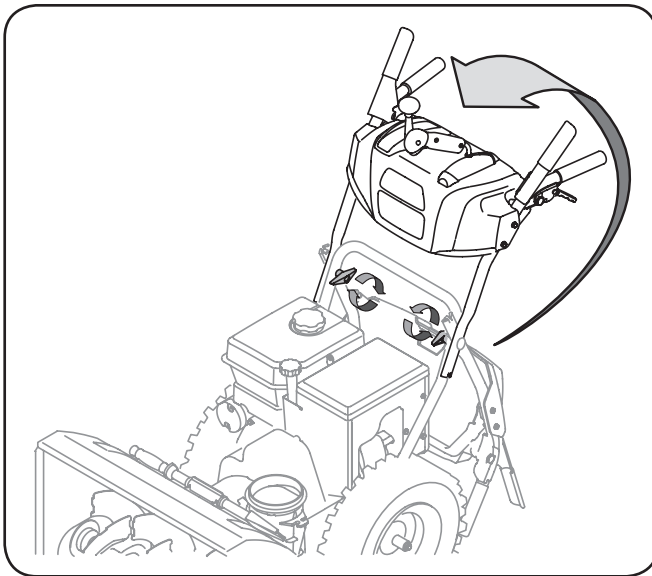

Figure 3-1
2. Observe the lower rear area of the snow thrower to be sure both cables are aligned with roller guides before pivoting the handle upward. Pivot the handle upward. See Fig. 3-1.